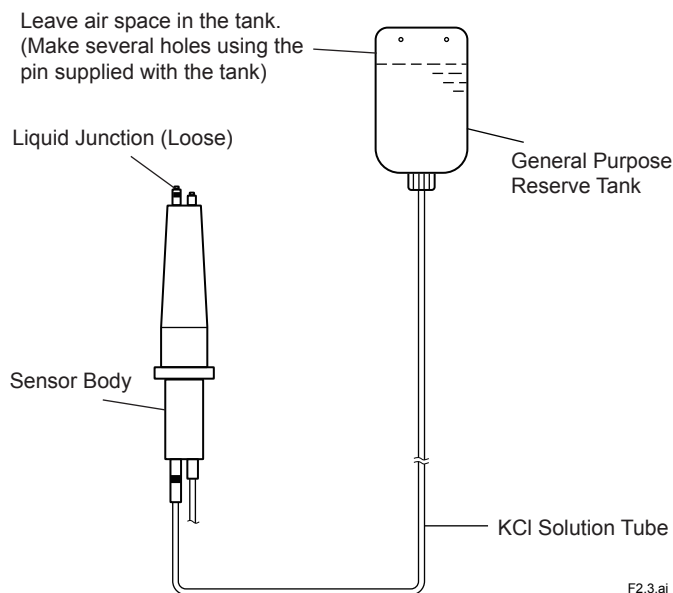

Figure 2.3 Supplying KCl Solution to Sensor Body
- (1) Connect the sensor cable to the associated instrument correctly by referring to Section 2.3 provided later.
- (2) Mount the liquid junction in the sensor body. Peel off the seal attached to the liquid junction mounting hole in the sensor body. Screw the liquid junction gently two or three turns into the hole.
- (3) If specified, a reserve tank containing 250 ml KCl solution and mounting hardware to hold this tank are supplied with the PH8EFP pH sensor. Attach the holding hardware to the pipe (nominal diameter 50 mm). Connect the reserve tank to the KCl solution supply tube of the sensor. Remove the cap from the tank and screw the tube connector securely into the tank.
- (4) Supply KCl solution to the sensor (see Figure 2.3). First, mount the reserve tank on the mounting hardware with the tube connection part directed downwards. Using the pin supplied with the tank, make several holes at its top (see Figure 2.3). Stand the sensor upside down at a lower position than the reserve tank as shown in Figure 2.3 so that KCl solution flows from the tank into the sensor. When the KCl solution fills the sensor and overflows from the liquid junction mounting hole, securely screw the liquid junction into the mounting hole.
- (2) Connect the sensor cable to the associated instrument correctly by referring to Section 2.3.
- (3) Mount the liquid junction in the sensor body. Peel off the seal attached to the liquid junction mounting hole on the sensor body. Screw the liquid junction gently two or three turns into the hole.
- (4) If specified, a reserve tank containing 250 ml KCl solution and mounting hardware to hold this tank are supplied with the PH8EFP pH sensor. Attach the mounting hardware to the pipe (2-inch). Connect the reserve tank to the KCl solution supply tube of the sensor. Remove the cap from the tank and screw the tube connector securely into the tank.
- (5) Supply KCl solution to the sensor. First, mount the reserve tank on the mounting hardware with the tube connection part directed downwards. Using the pin supplied with the tank make several holes in its top (see Figure 2.3). Stand the sensor upside down at a position lower than the reserve tank as shown in Figure 2.3 so that KCl solution flows from the tank into the sensor. When the KCl solution fills the sensor and overflows from the liquid junction mounting hole, securely screw the liquid junction into the mounting hole.
First, mount the reserve tank on the holding hardware with the tube connection part directed downwards. Using the pin supplied with the tank, make several holes in its top (see Figure 2.3). Stand the sensor upside down at a position lower than the reserve tank as shown in Figure 2.3 so that KCl solution flows from the tank into the sensor. When the KCl solution fills the sensor and overflows from the liquid junction mounting hole, securely screw the liquid junction into the mounting hole.